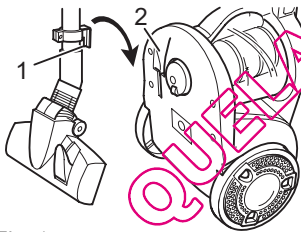

Fig. 15
- For **storage**, you can hook the storage hook (Fig. 15/1) of the telescopic tube into the storage bracket (Fig. 15/2) at the bottom of the cylinder vacuum cleaner.